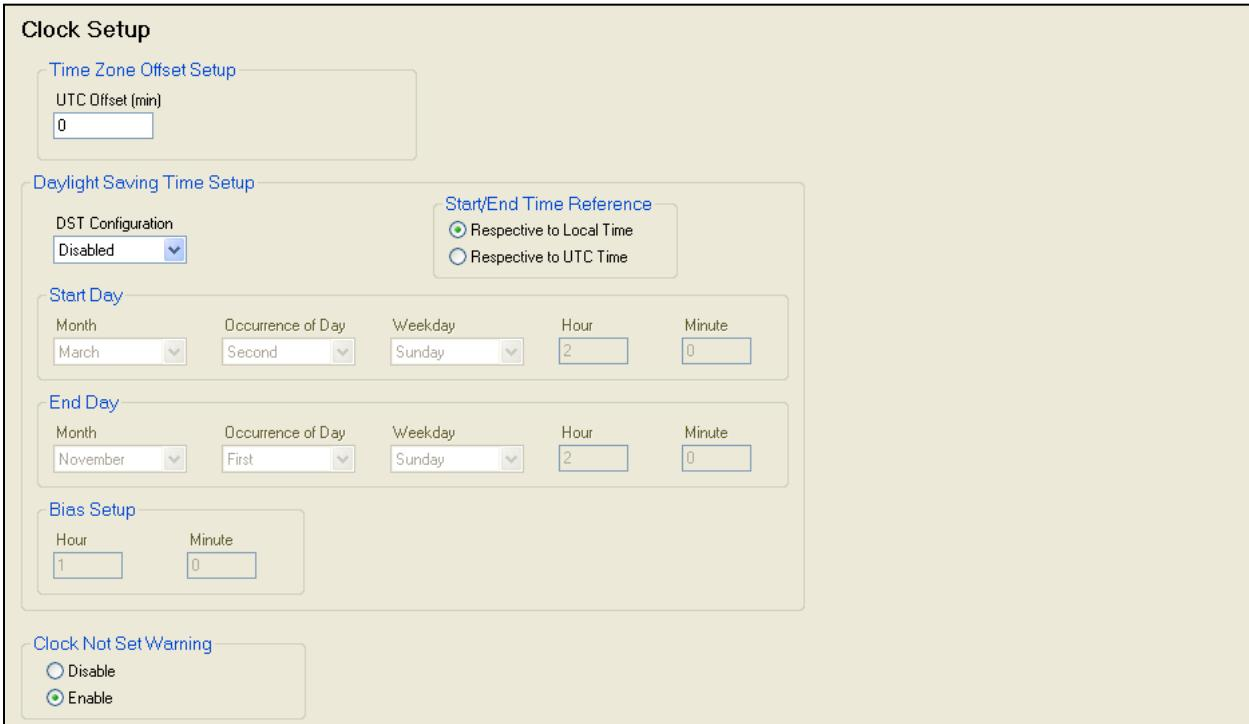

Figure 6-38. *Settings Explorer, General Settings, Clock Setup Screen*
- c. Clock Setup: Configure the date and time for the DGC-2020. The daylight-savings time parameters are also configured on this screen. See Figure 6-38.